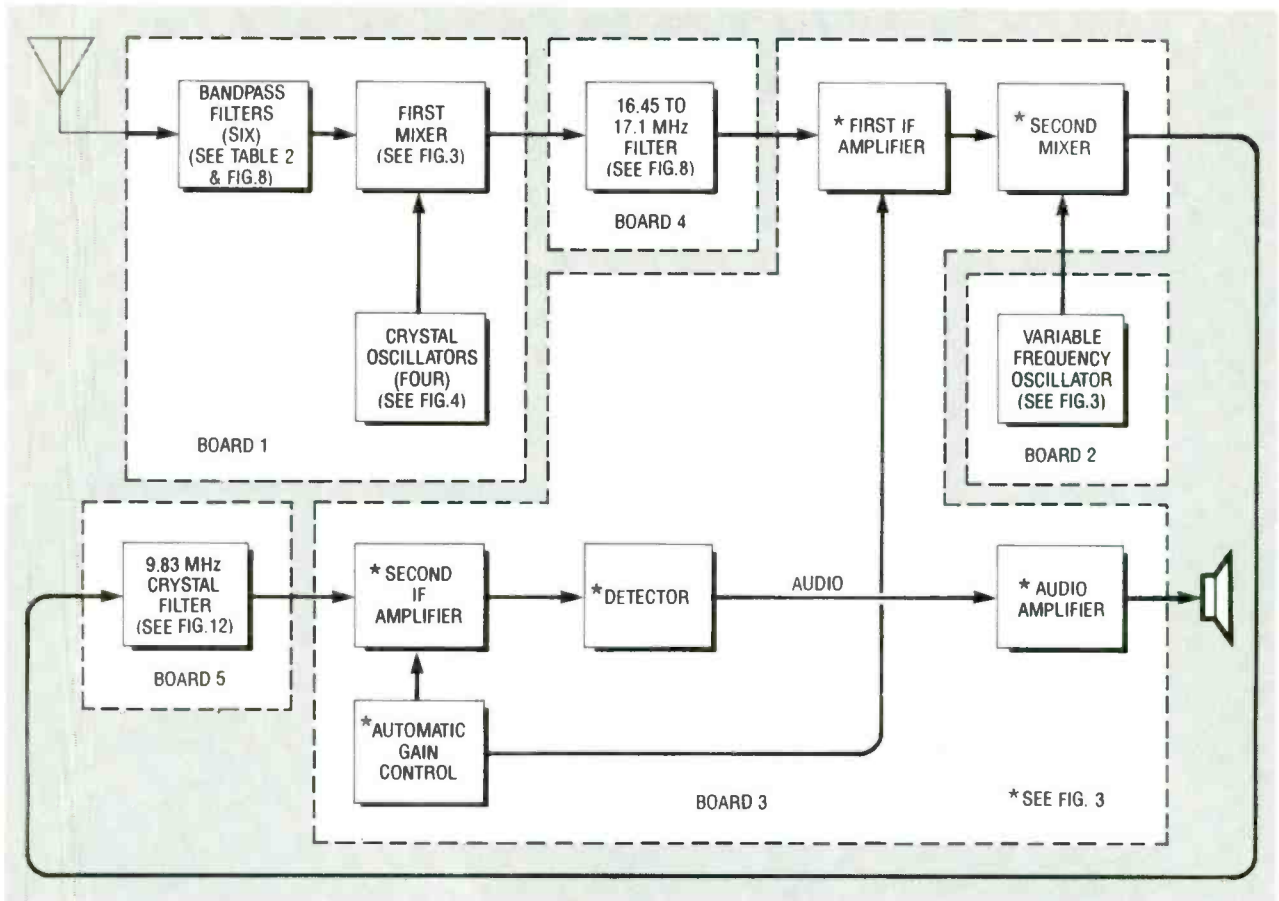
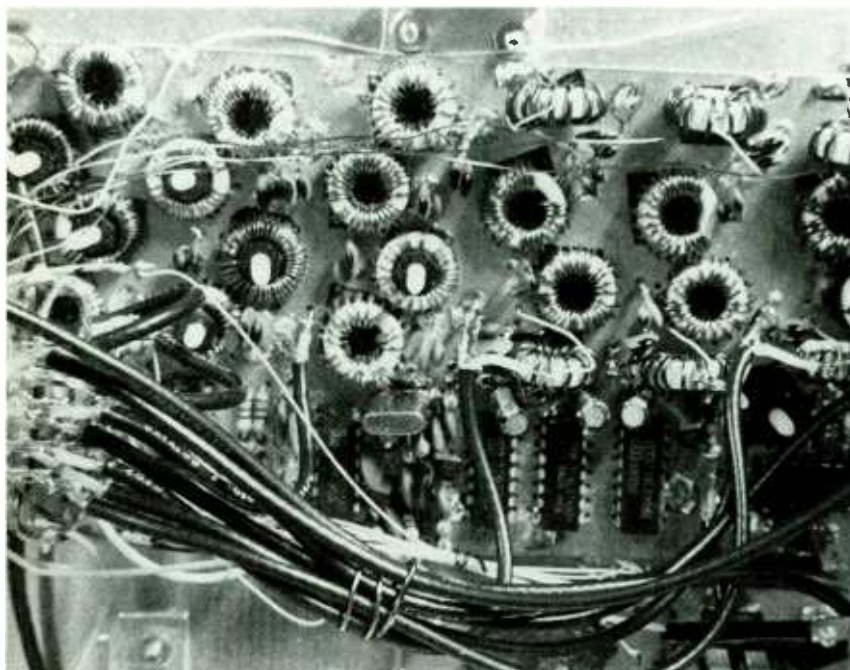

FIG. 1—FUNCTIONAL BLOCK DIAGRAM OF SWX6 RECEIVER showing the partitioning of circuits on three principal circuit boards.
FIG. 5—FILTER/MIXER BOARD layout with coaxial cabling and other wiring to the band switch shown in foreground
Figure 1 is a simplified block diagram of the receiver. The incoming radio frequency (RF) is filtered by the bandpass filter and mixed with the output of the crystal oscillator in the first mixer. After passing through the 16.45 to 17.1 MHz filter and being amplified by the first intermediate-frequency (IF) amplifier, the signal is mixed with the output of the variable frequency oscillator (VFO) in the second mixer.
The separate bandpass filters for each of the bands are built on board 1, the largest of the five circuit boards in the receiver (see Fig. 1) shown in Fig. 5. This filter-mixer board measures 3 ¼ × 6-inches and it contains the oscillator/divider circuits for each band and the first mixer circuit. (Schematic diagrams for the bandpass filters are included along with a table of component values for the six bands later in this text.)